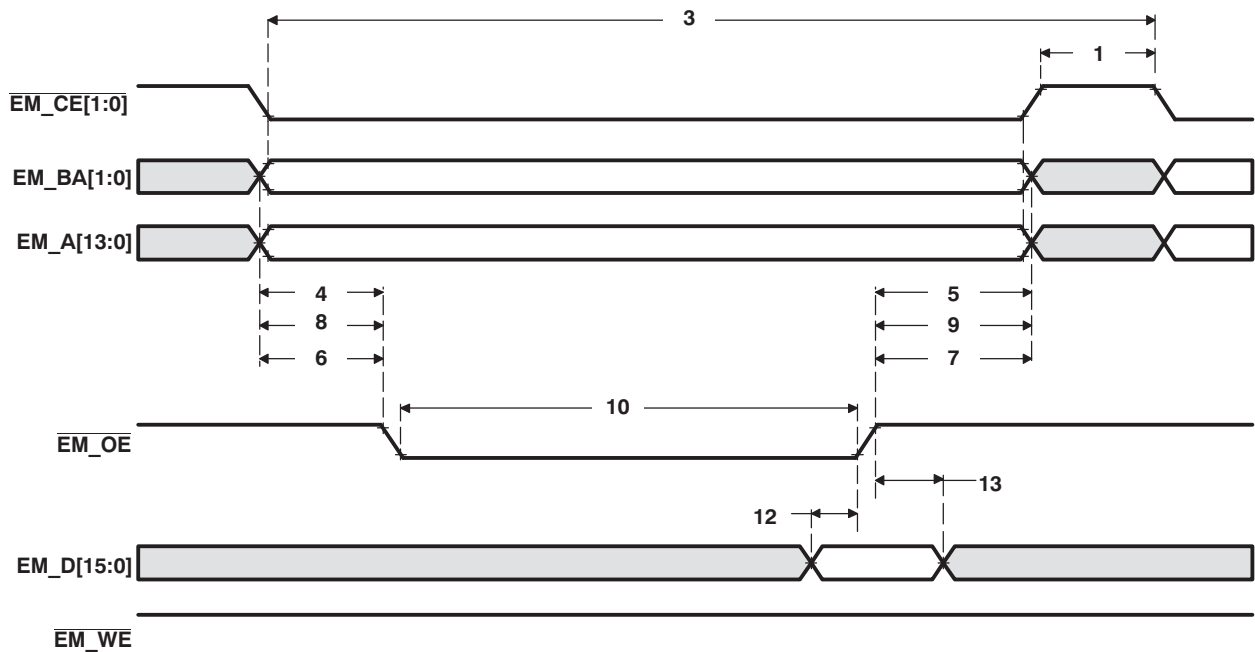
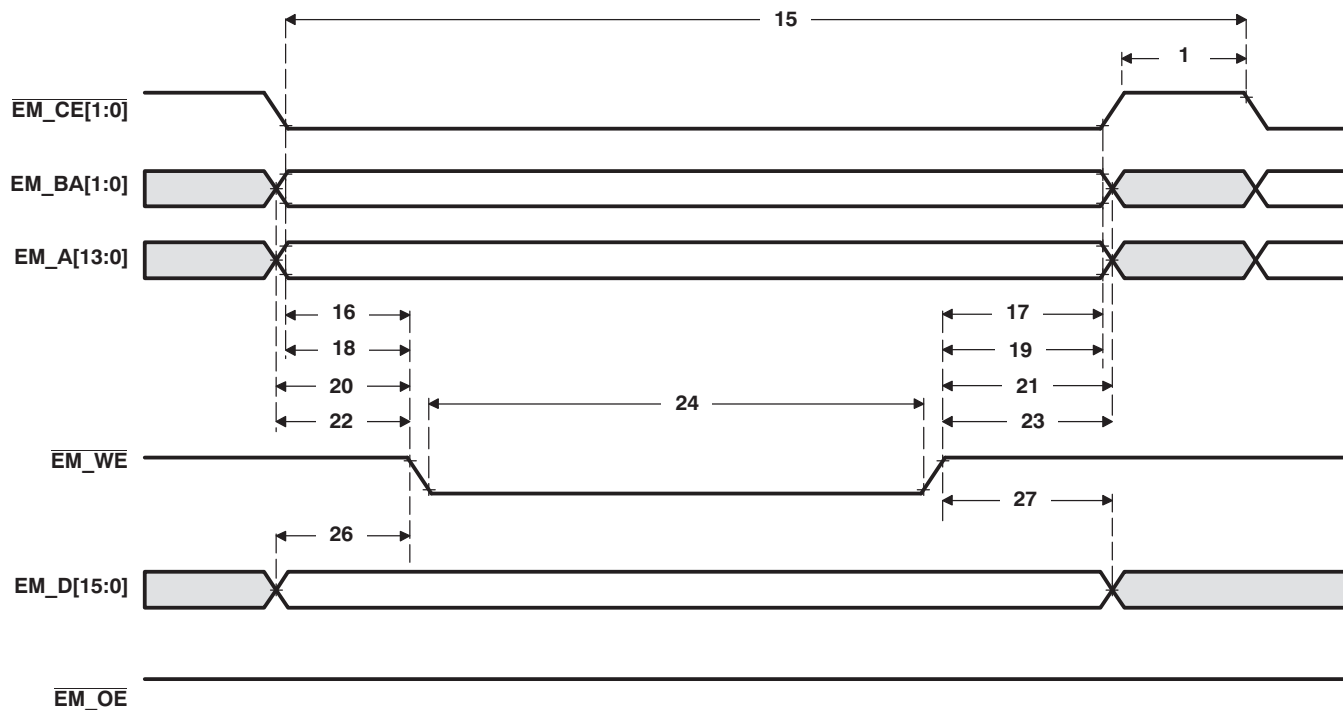

Figure 5-14. Asynchronous Memory Read Timing for EMIF
Figure 5-15. Asynchronous Memory Write Timing for EMIF
Table 5-13. Timing Requirements for Asynchronous Memory Cycles for AEMIF Module⁽¹⁾ (see Figure 5-14 and Figure 5-15)
Table 5-14. Switching Characteristics Over Recommended Operating Conditions for Asynchronous Memory Cycles for AEMIF Module^{(1) (2) (3)} (see Figure 5-14 and Figure 5-15)
- (1) TA = Turn around, RS = Read setup, RST = Read strobe, RH = Read hold, WS = Write setup, WST = Write strobe, WH = Write hold, MEWC = Maximum external wait cycles. These parameters are programmed via the Asynchronous Bank and Asynchronous Wait Cycle Configuration Registers. These support the following range of values: TA[4-1], RS[16-1], RST[64-1], RH[8-1], WS[16-1], WST[64-1], WH[8-1], and MEW[1-256]. See the *TMS320DM335 Digital Media System-on-Chip (DMSoC) Asynchronous External Memory Interface (EMIF) Reference Guide* (SPRUZ1) for more information.
- (2) E = PLLC1 SYSCLK2 period in ns. SYSCLK2 is the EMIF peripheral clock. SYSCLK2 is one-fourth the PLLC output clock. For example, when PLLC output clock = 432 MHz, E = 9.259 ns. See Section 3.5 for more information.
- (3) EWC = external wait cycles determined by EM_WAIT input signal. EWC supports the following range of values EWC[256-1]. Note that the maximum wait time before timeout is specified by bit field MEWC in the Asynchronous Wait Cycle Configuration Register. See the *TMS320DM335 Digital Media System-on-Chip (DMSoC) Asynchronous External Memory Interface (EMIF) Reference Guide* (SPRUZ1).
Table 5-14. Switching Characteristics Over Recommended Operating Conditions for Asynchronous Memory Cycles for AEMIF Module ^{(1) (2) (3)} (see Figure 5-14 and Figure 5-15) (continued)
Table 5-14. Switching Characteristics Over Recommended Operating Conditions for Asynchronous Memory Cycles for AEMIF Module ⁽¹⁾ ⁽²⁾ ⁽³⁾ (see Figure 5-14 and Figure 5-15) (continued)